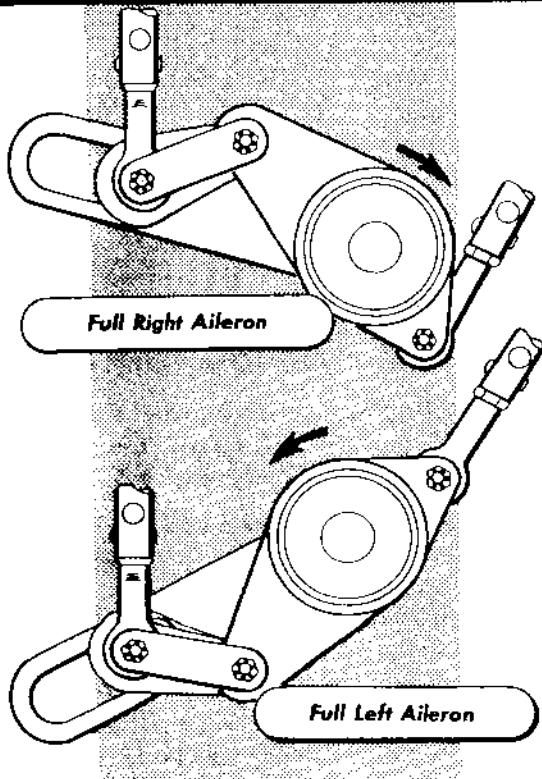

Figure 132 — Aileron Differential Mechanism
(a) DESCRIPTION.—This part of the aileron control system consists of a series of torque tubes and push rods. A differential device, installed at fuselage station 158, provides reduced stick sensitivity near the neutral position. (See figure 132.)
The purpose of the aileron differential mechanism is to reduce the aileron control sensitivity near the aileron neutral position. This is accomplished by varying the length of the lever arm in the attachment of the push-pull tubes to the torque tube. Figure 132 shows the differential mechanism in both the neutral and full-left aileron positions. The push-pull tubes (1) have moved bell cranks (3) counterclockwise. The bell cranks do not operate shaft (7) directly, but are connected with arm (10) by links (9) through a roller bearing attached to
the push-pull tube clevis bolt. Arm (10) is attached directly to stub shaft (7). As the mechanism rotates, the bell cranks and links jackknife and the roller bearing on the push-pull tube clevis moves toward the center of rotation. This action progressively shortens the moment arm of the bell cranks to the position shown in figure 132. The moment arm of bell cranks (3) is longest with the mechanism in neutral, and shortest at either full right or full left aileron. More stick movement is required to move the ailerons a given distance from neutral than from any other position. The movement of the ailerons is gradually accelerated with constant movement of the control stick.
2. AILERON DIFFERENTIAL MECHANISM. (See figure 132.)
- a. Detach push-pull tubes (1).